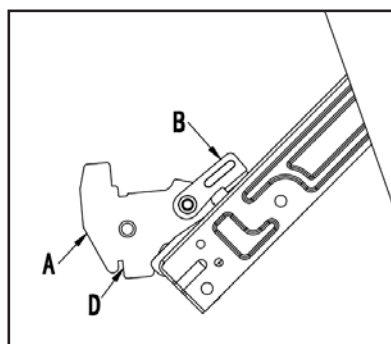

Fig 1
- › Open the door completely and lift the 2 levers "B" [Fig. 1];
1. Press the button on left and right side of door [A], take out top rail pulling in direction B. [Fig.1]